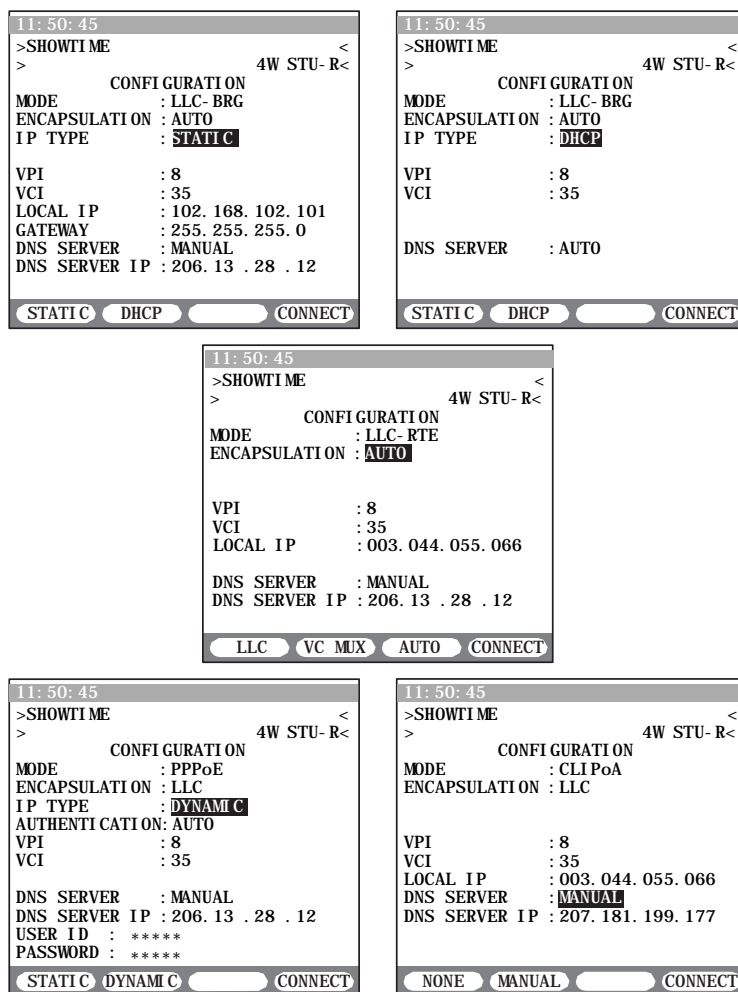

Figure 20 IP Configuration Screens
Note: The actual configuration settings displayed depend on the selected MODE as seen in Figure 20:
6. At HIDE USER ID, choose whether to hide the ID code by pressing YES (F1) or NO (F2). In the bottom left screen shown in Figure 20 the USER ID and PASSWORD are hidden.